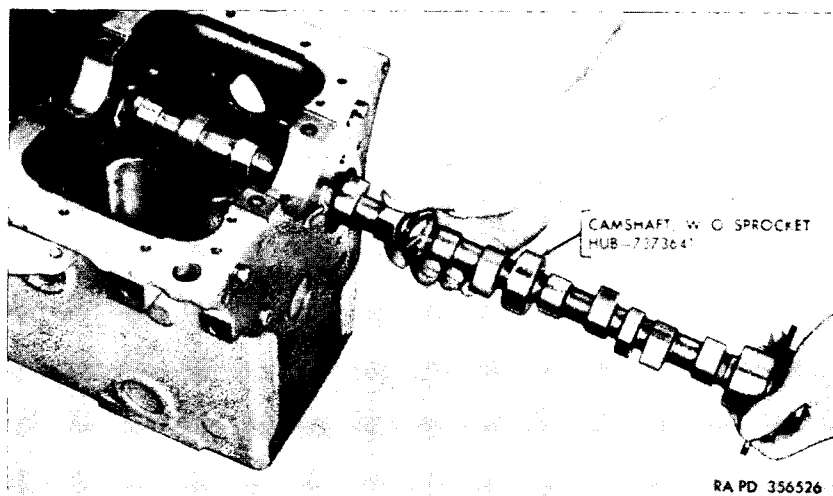

Figure 34. Removing Camshaft.
- (2) Pull camshaft (fig. 34) from cylinder block and rotate same to facilitate removal. Exercise care to prevent possible bearing damage. Wipe camshaft journals and bearings free of lubricant. Then install camshaft in cylinder block so that bearing clearance can be checked.
- (3) Check camshaft bearing clearance by mounting a dial gage on the crankshaft main bearing support web and position